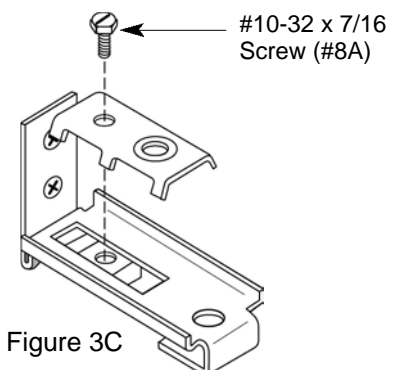

Figure 3C
- F. With the Pivot "L" Bracket (#20) securely installed, locate the Pivot Block Clamp (#8) and the #10-32 x 7/16 Screw (#8A), remove the top half of the Pivot Block Clamp (#8) and discard the bottom half. Use the #10-32 x 7/16 Screw (#8A), which came with the Pivot Block Clamp (#8), to attach the top half of the Pivot Block Clamp (#8) to the Pivot "L" Bracket (#20) which is mounted to the floor and wall. See Figure 3C.